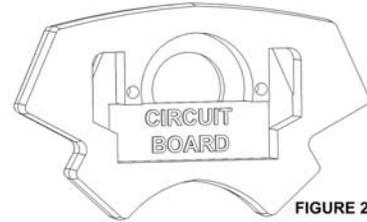

FIGURE 2
7. Position the circuit board in the back of the GRANT pad by pressing it onto the rectangular cavity where it will snap into position. Feed the wires to the switches up thru the holes provided and connect to the switches. Push the switches into the Grant pad storing the excess wire into the cavity to prevent pinching or pulling. **See Figure 2.**